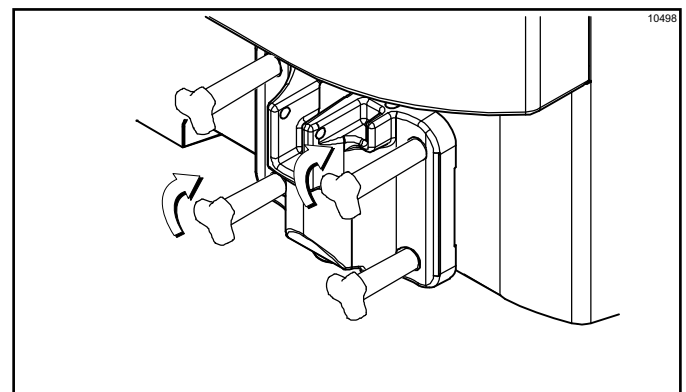

Figure 6-12
6. Insert the baffle rod through the beater in the freezing cylinder. With the door seated on the freezer studs, install the handscrews, with the longer ones on top. Tighten equally in a crisscross pattern to ensure the door is secured. (See Figure 6-12.)